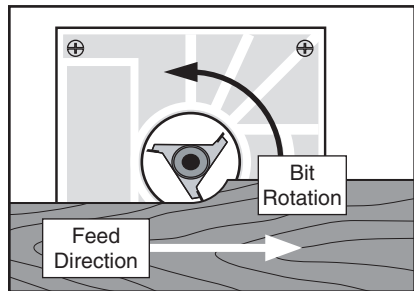

Figure 7. Correct feed direction and grain orientation.
- Examine the top face of the workpiece and determine the direction of the grain. Feed the router so the bit is cutting with the grain (cutting along the growth rings as shown in **Figure 7**). Cutting against the grain chips the wood rather than cutting it, making a rougher surface with more “chip out.”
- Always pass the router across the workpiece so the bit is rotating opposite the feed direction, as shown in **Figure 7**. If the bit is moving in the same direction you are feeding the router, you are performing a “climb cut.” This is a very dangerous operation because the router could lunge forward out of your hands, causing serious personal injury.